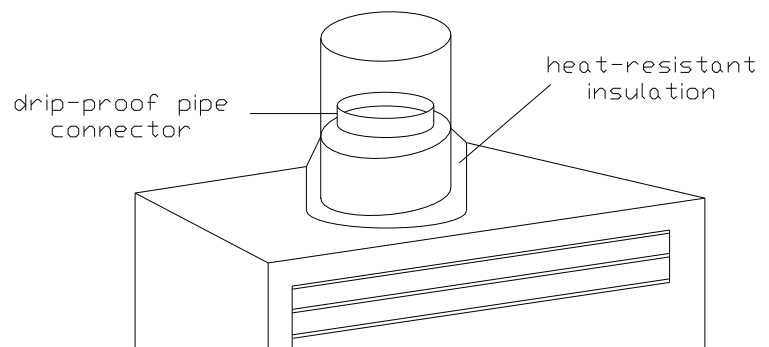

FIGURE 9
(B) Attaching chimney to Gemini XLB unit (FIGURE 9). A solid fuel chimney must make a positive connection to the drip proof pipe connector at all points along base of pipe connector for proper installation.